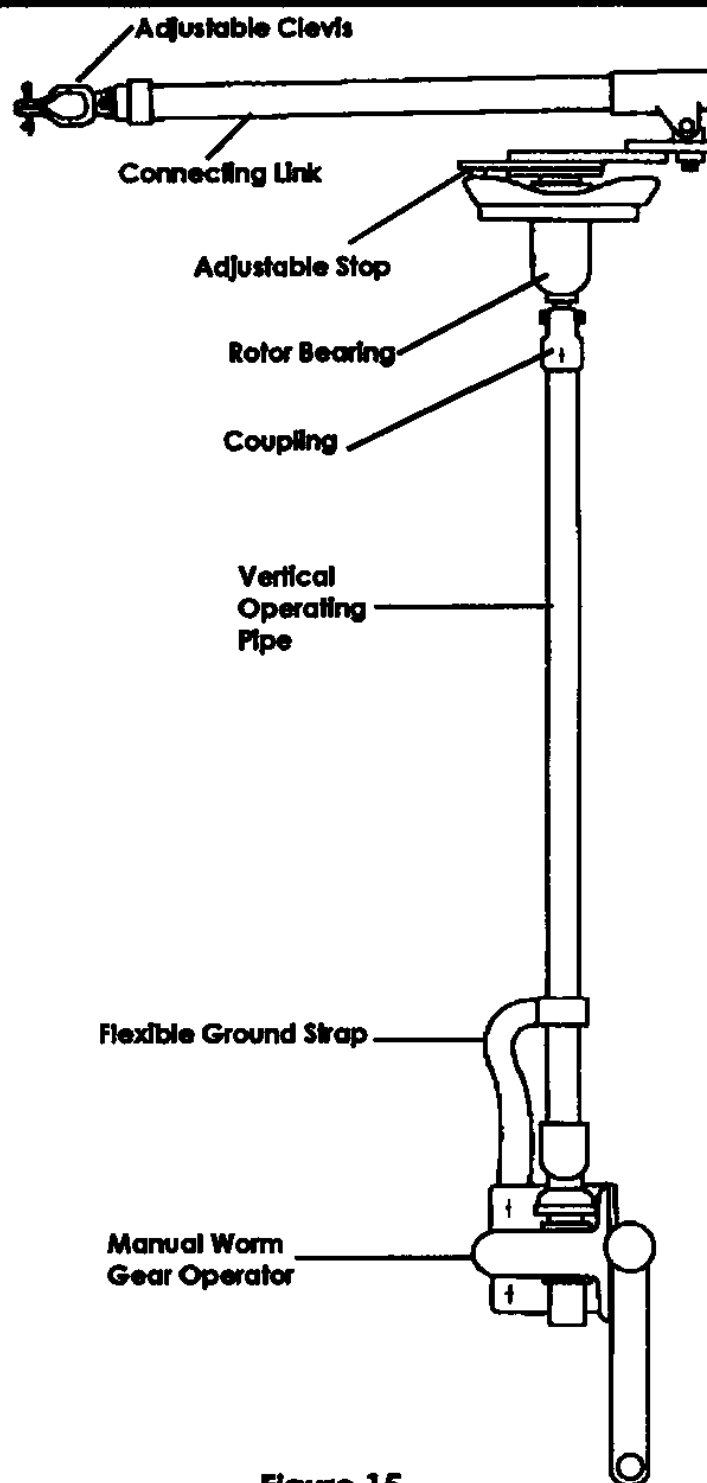

Figure 15
The vertical operating pipe (Fig. 15) is pre-drilled at one end for a 5/8-inch diameter pin.
1. Fasten the vertical operating pipe to the offset rotor bearing shaft (or on the pole unit rotor bearing shaft for direct-connected switches) using the 5/8-inch coupling pins supplied with the unit. Refer to Fig. 15.